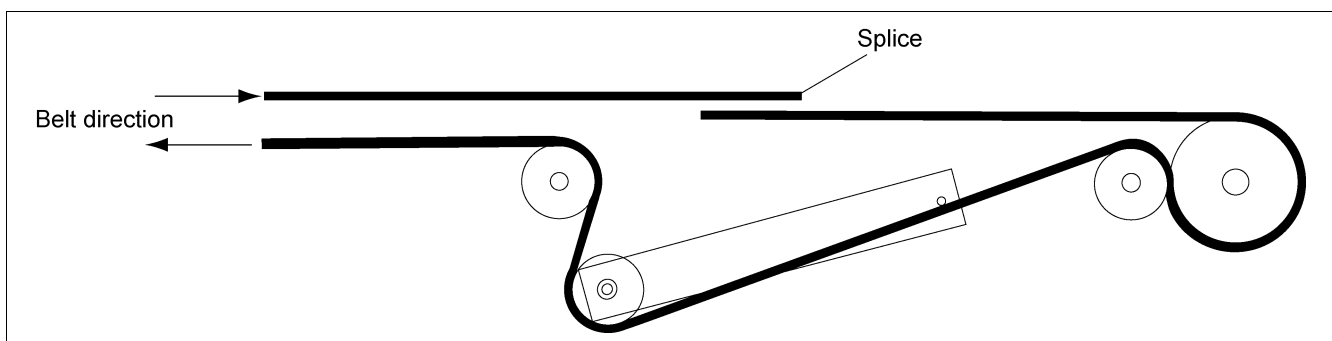

Figure 4Z Routing of Belt through Drive Mechanism
6. Thread the belt through the drive mechanism as shown in Figure 4Z.
7. With the proper tension on rollers, pull the top belt until the bottom belt begins to drift backward. At this point, lock the top belt against the wall of the house using two (2) wooden slat boards clamped together around the belt.
8. Pull the bottom belt until the drive mechanism is snug as shown in Figure 4Z. Then stretch the belt NO MORE than 12"-18" (30-46 cm) past this point.